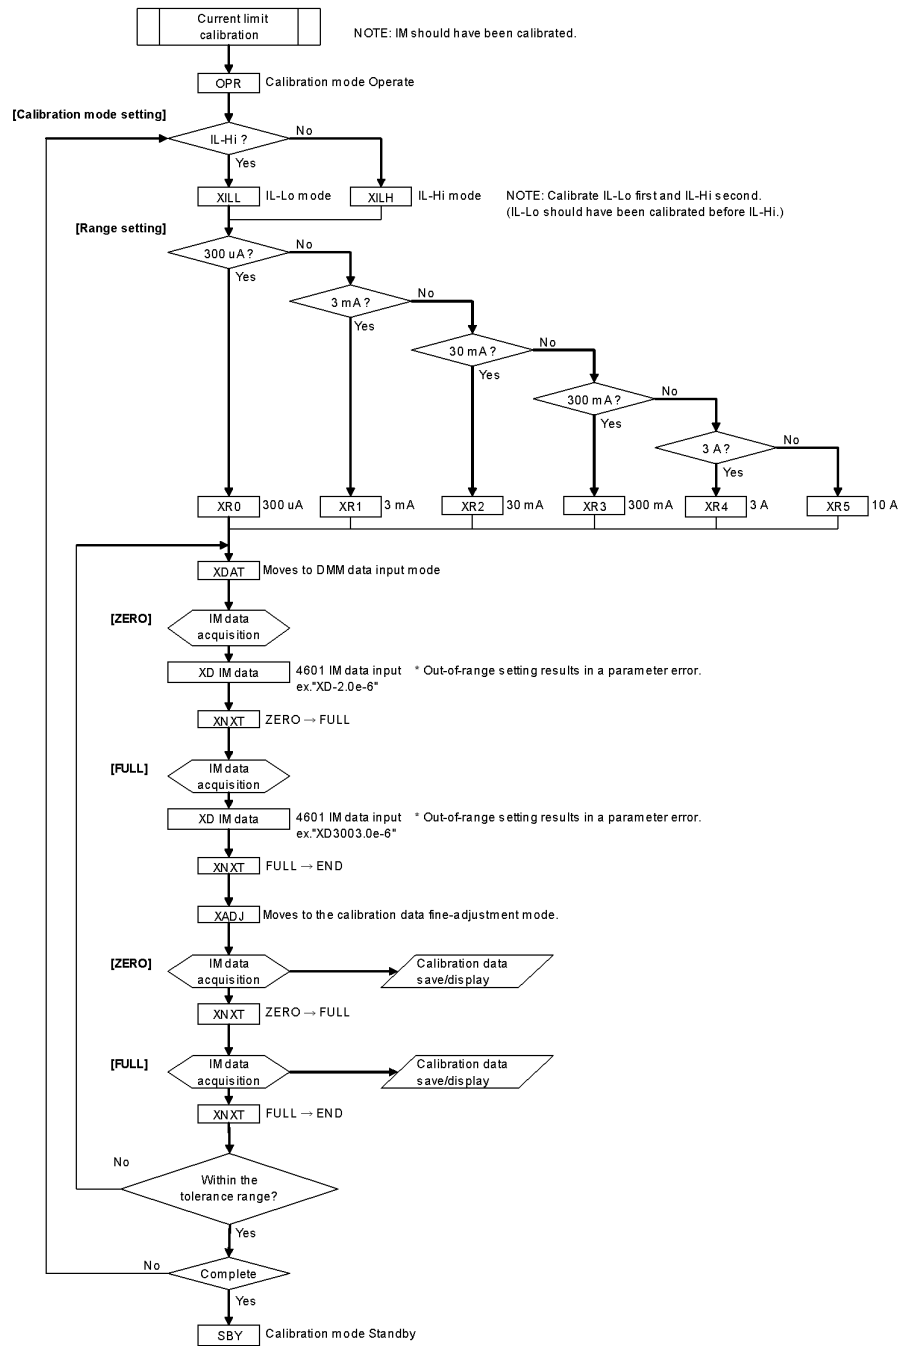

Figure 8-9 Calibration Procedure (5)
The procedure of current limit calibration is described according to Figure 8-9 Calibration Procedure (5). Check that the current measurement calibration has been completed.